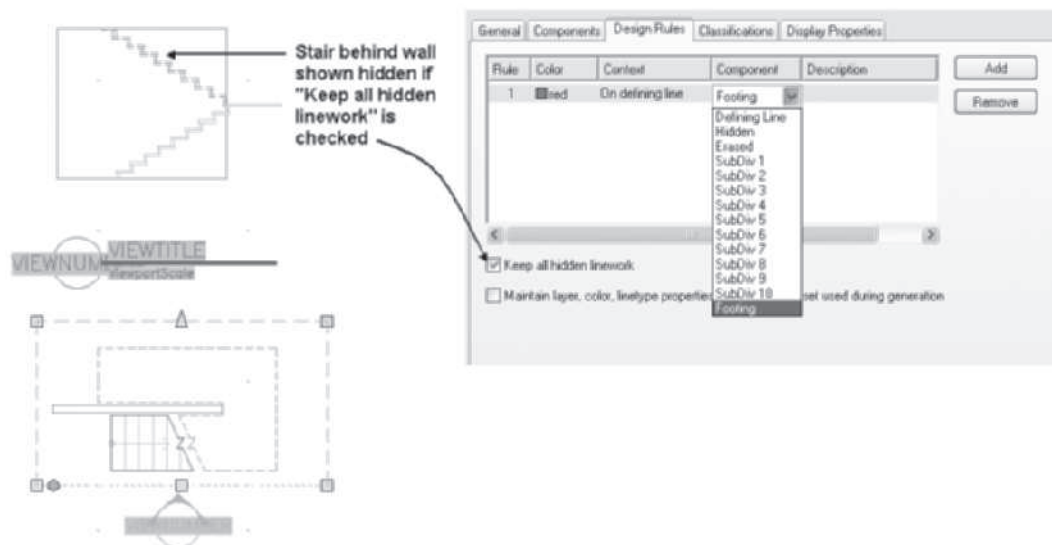

FIGURE 12.20 Design Rules tab of the Elevation Style Properties dialog box
The Design Rules tab is shown in Figure 12.20.
Keep all hidden linework—All hidden components are displayed in the elevation. The stair behind the wall shown in Figure 12.20 is shown with hidden lines since this toggle is checked.
4. Select the **Design Rules** tab (shown in Figure 12.20), click the **Add** button, and specify the color name/number. Click in the **Context** column and select a context, such as **Any Visible or Hidden**, of the object from the model that will be assigned unique display. Click in the **Component** column and specify the name of the display component, such as **Footing**, created in step 2.